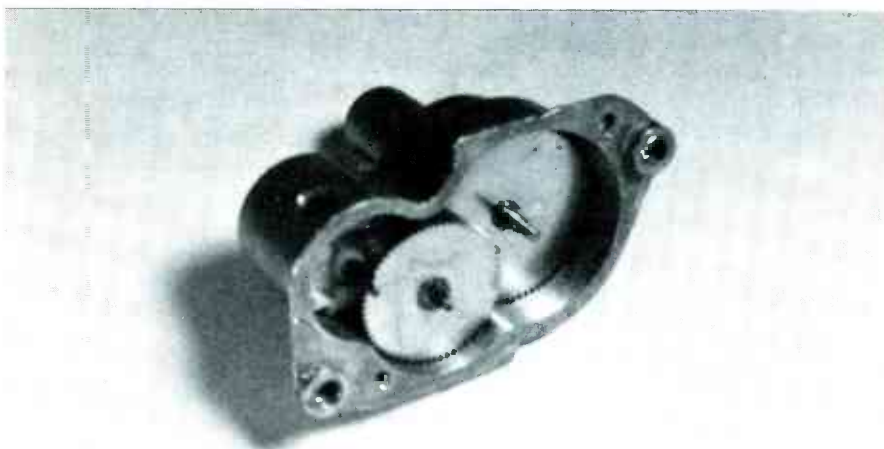

Fig. 3 Two views of the governor assembly used in Delco radios. The gear train slows the speed of seeking. Seeking is ended by locking these gears.
Fig. 3 The 4.5M-Hz trap can be adjusted by connecting the equipment for overall chroma sweep (sometimes called VSM) and using a demodulator scope probe connected to the video detector. (A) The trap has been adjusted incorrectly to 4.08M Hz. (B) The trap has been adjusted correctly to 4.5M Hz.
- Adjust the trap for minimum response at the 4.5M-Hz marker, as shown in Fig. 3.
When the relay is energized, its paddle no longer projects through the slot cut into the side of the governor. A closeup of the governor is shown in Fig. 3. Without the paddle to block the governor, the gear train runs, and the tuner seeks.